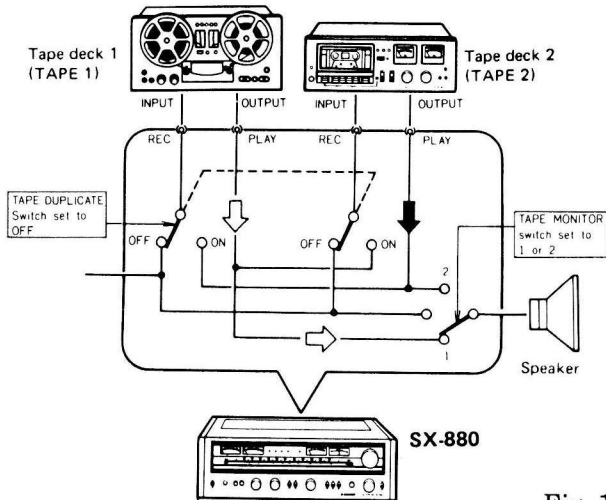

Fig. 11
1. As shown in Fig. 11, set the TAPE MONITOR switch to 1 if the tape deck is connected to the TAPE 1 jacks. Set the TAPE MONITOR switch to 2 if it is connected to the TAPE 2 jacks.